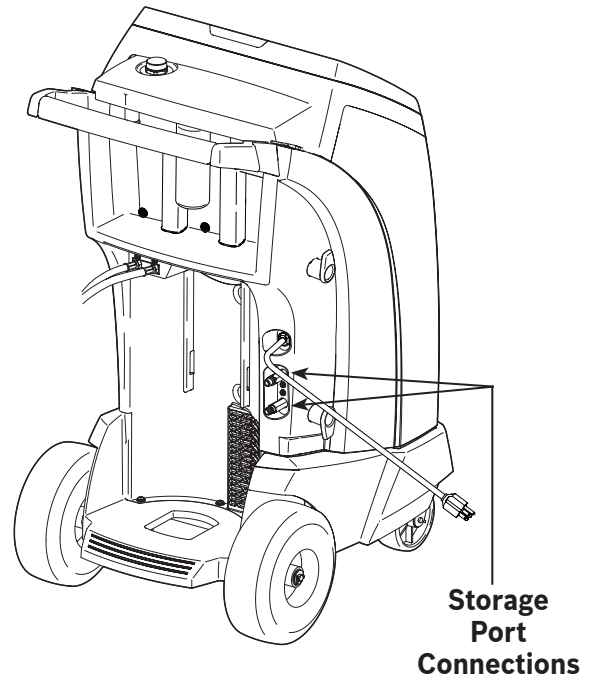

Figure 3
2. Connect the service hoses to the machine's storage port connections as shown in Figure 3.
2. If the system does NOT have an electric compressor with POE oil, select **X** to continue. If the system has an electric compressor with POE oil, select **✓** to flush all residual oil from the hoses. The user will be prompted to “Connect service hoses to storage ports and open coupler valves.” See “Figure 3” on page 19. Continuing will begin the process of flushing the hoses. Once complete, select **▶▶** to continue through the Charge process.